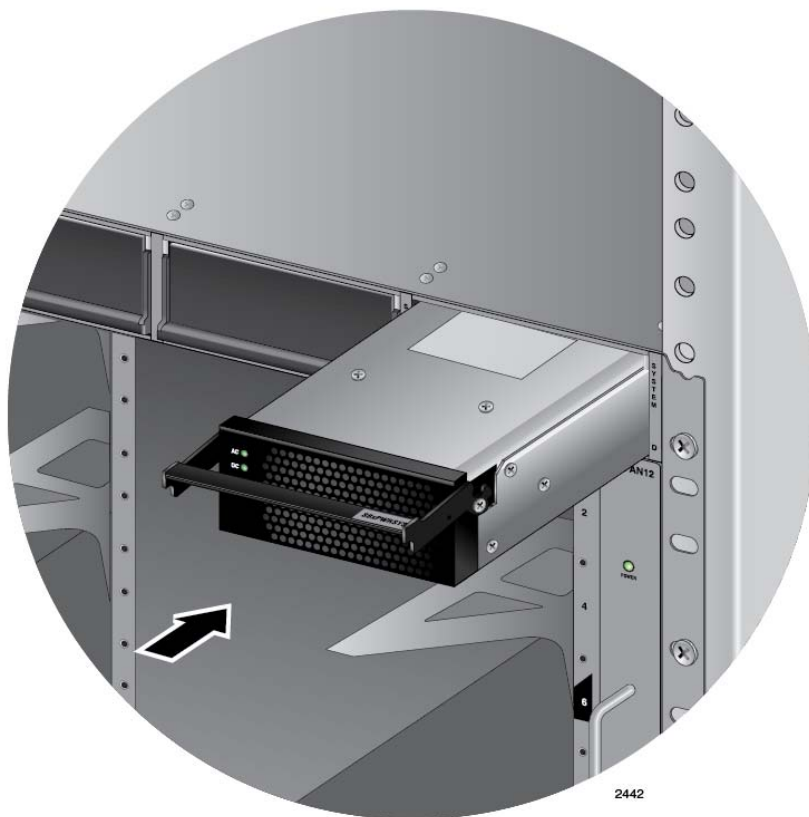

Figure 49. Inserting the AT-SBxPWRSYS1 or AT-SBxPWRSYS2 AC System Power Supply
5. Align and insert the power supply into the power supply slot. Figure 49 shows the power supply installed in slot D.